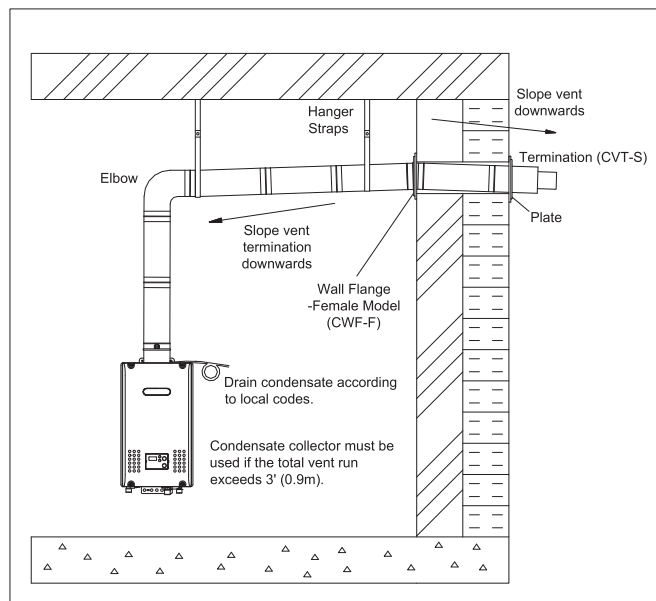

Fig 5 Horizontal extended installation
7. Make sure that slope the horizontal vent 1/4" (6mm) downwards for every 12" (300mm) towards the appliance. (See Fig 5)
8. Make sure that slope the vent termination piece downwards towards the terminating wall. (See Fig 5)